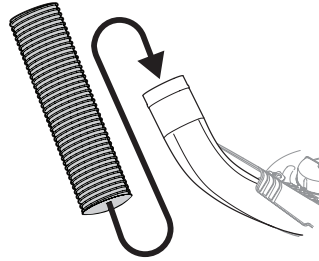

Figure 22
2. Slide the hose over the boot assembly mounted on the cutting deck, as shown in Figure 22.